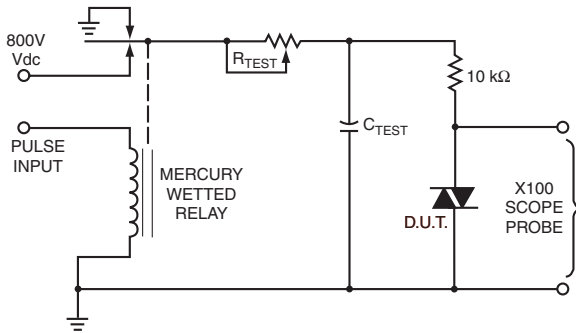

Figure 9. Static dv/dt Test Circuit
- This is static dv/dt . See Figure 9 for test circuit. Commutating dv/dt is a function of the load-driving thyristor(s) only.